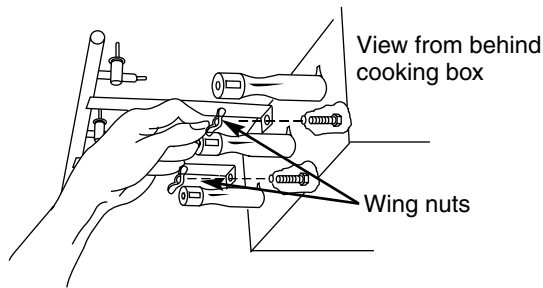

Figure 17
f) Remove the manifold bracket and unscrew the two wing nuts that hold the manifold to the cooking box. Pull the manifold and valve assembly out of the burners and carefully set it down. Figure 17.